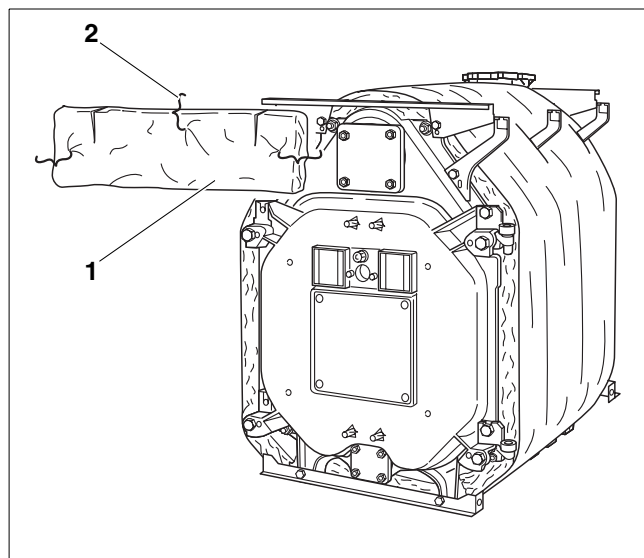

Fig. 43 Assembly – Fitting front insulation
- Fit the rectangular pad of insulation (Fig. 43, **ref. 1**) to the front of the boiler above the door, with the slits at the top.
- Fasten it to the insulation on the main block with 3 spring clips (Fig. 43, **ref. 2**).